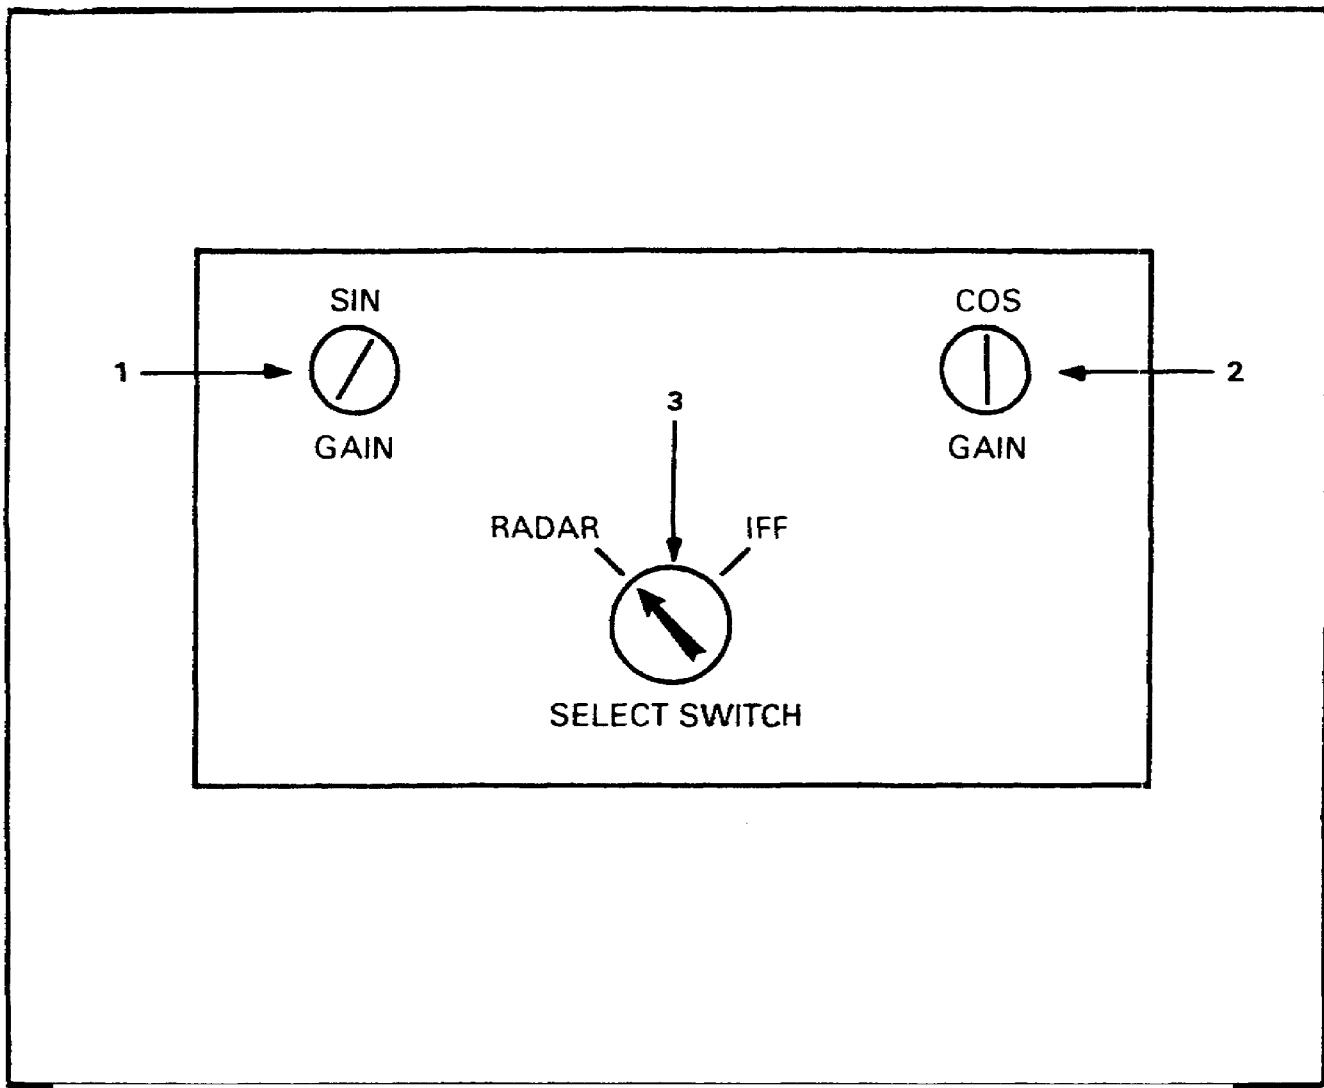

Figure 10. Sine-cosine converter MG-1501 or MG-1502.
i. Locate the following controls on the sine-cosine converters MG-1501 and MG-1502. Both are identical. (See Figure 10.)
- (1) Sin gain control.
- (2) Cos gain control.
- (3) Radar IFF select switch.
- Sin gain control (Figure 10)
- Cos gain control (Figure 10)
- Radar-IFF select switch (Figure 10)